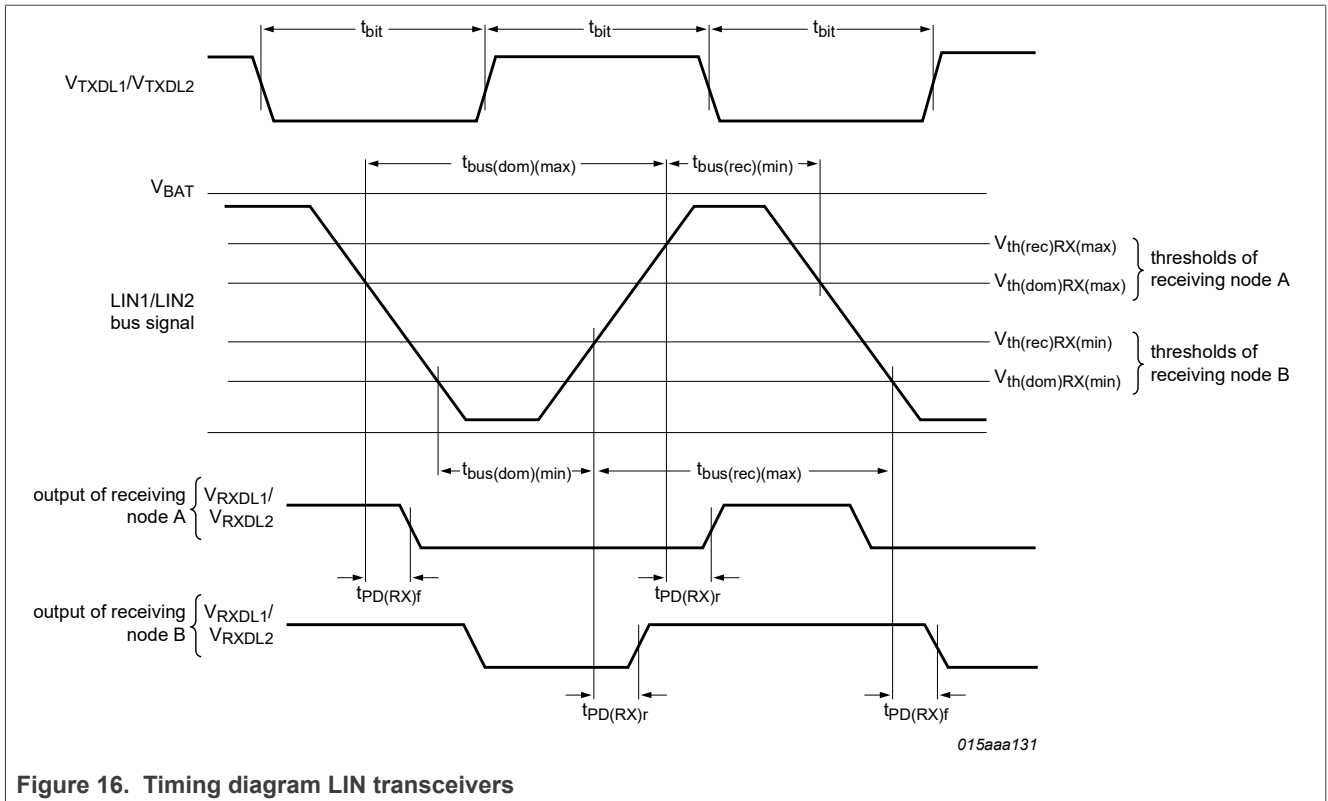

Figure 16. Timing diagram LIN transceivers
LIN transceivers; pins LIN1, LIN2, TXDL1, TXDL2, RXDL1, RXDL2; see <a href="#">Figure 16</a> and <a href="#">Figure 19</a>
- [2]  $\delta 1, \delta 3 = \frac{t_{bus(rec)(min)}}{2 \times t_{bit}}$ . Variable  $t_{bus(rec)(min)}$  is illustrated in the LIN timing diagram in Figure 16.
- [4]  $\delta 2, \delta 4 = \frac{t_{bus(rec)(max)}}{2 \times t_{bit}}$ . Variable  $t_{bus(rec)(max)}$  is illustrated in the LIN timing diagram in Figure 16.